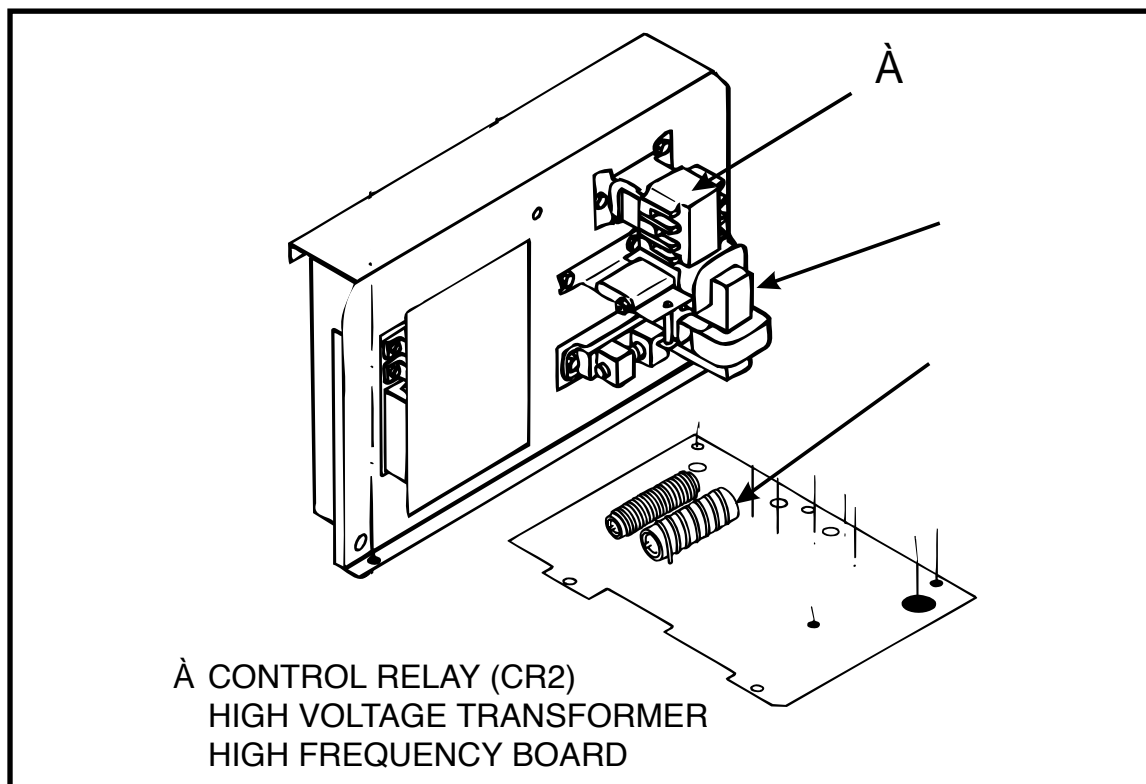

FIGURE F.12-High Voltage Test Component Locations
1. Locate and connect probes to leads #35 and #31 on Control Relay CR2. Use alligator clips for best results. See Figure F.12.
2. Locate the two white leads soldered into the two black doughnut chokes located below the High Frequency Transformer. See Figure F.12.